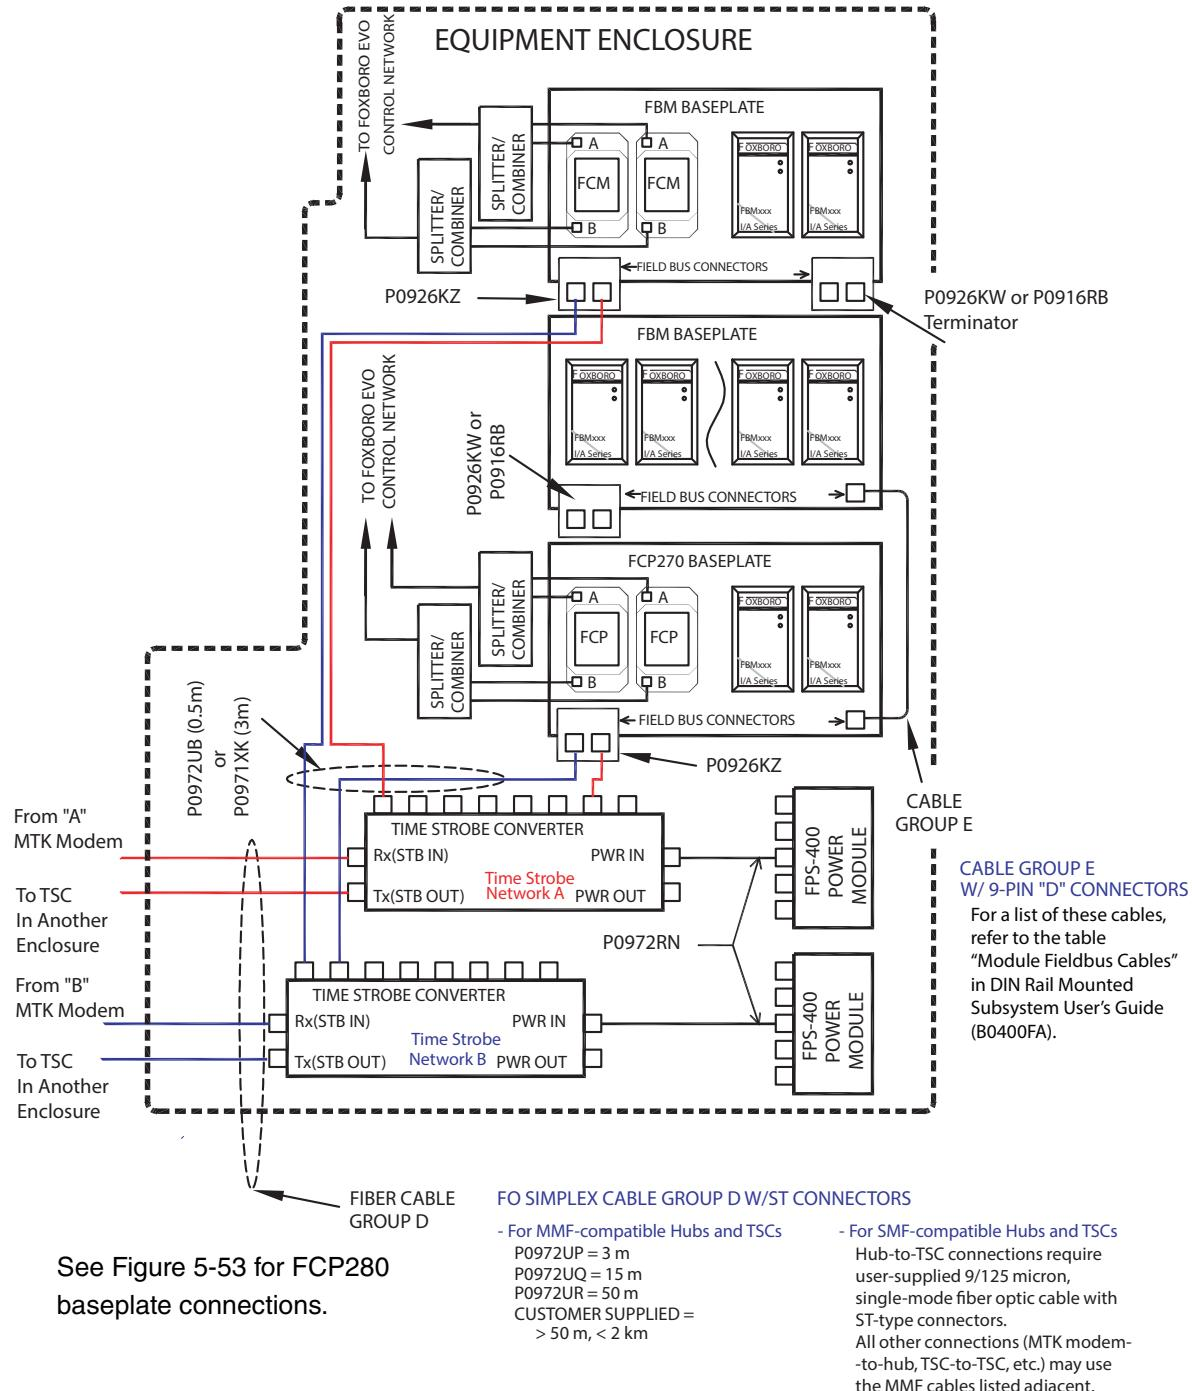

Figure 5-57. Redundant Time Strobe Cable Connections to FCP270 or FCM100Et
1. For a **non-FCP280 baseplate**, insert the A/B Module Fieldbus and Time Strobe Terminator (P0926KZ) (see Figure 5-52) into the baseplate (see Figure 5-57). Tighten the two retaining screws.
- Using cable P0972UB or P0971XK (see Figure 5-57), connect one TSC output to the A/B Module Fieldbus and Time Strobe Terminator (P0926KZ) in the non-FCP280 baseplate, or to the Time Strobe Adapter (RH924ZQ) in the FCP280 baseplate.
3. Using cable P0972UB or P0971XK (see Figure 5-57), connect one output from the second TSC to the second input of the A/B Module Fieldbus and Time Strobe Terminator (P0926KZ).